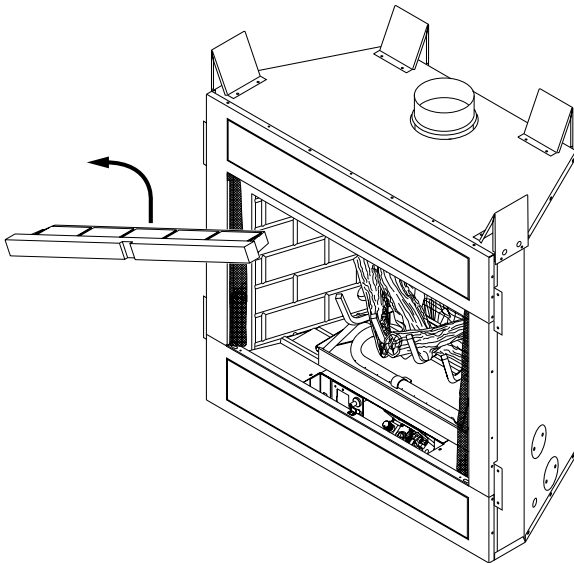

Figure 12 - Removing Front Refractory Access Panel (P325E/VP325E Model Shown)
1. Remove the front refractory access panel by lifting up and angling out of the firebox opening (see Figure 12).